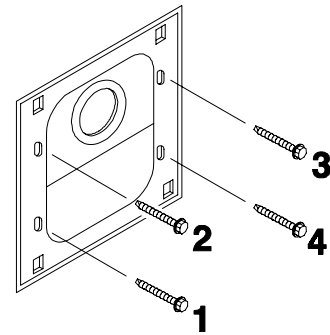

Figure 17.
- Hold the rear panel against the surface, in the same position as before, and screw the four enclosed self-tapping screws through each of the screw holes on the panel, into the speaker post or menu board as shown in Figure 17.